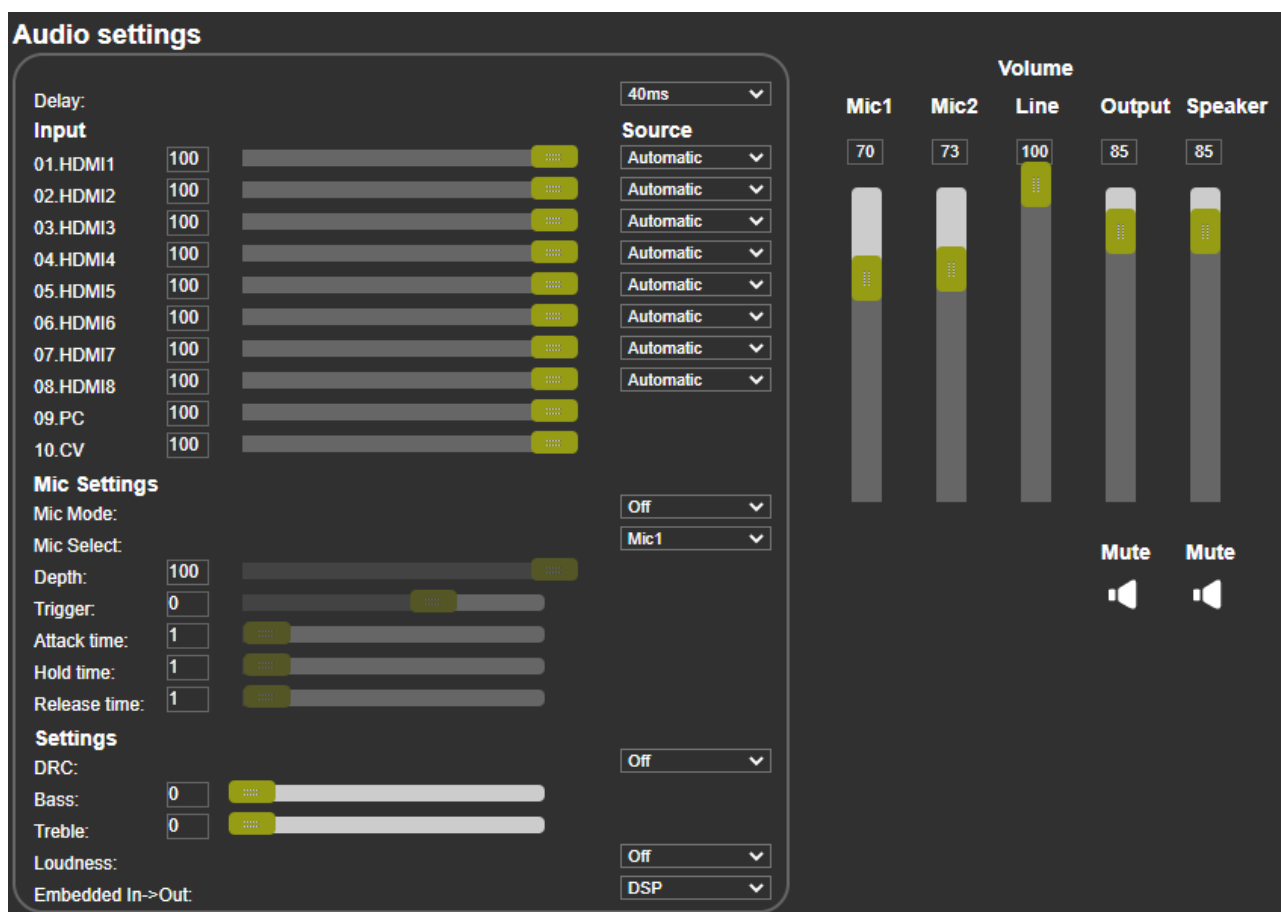

Figure 27: Audio Settings Page
1. In the Navigation pane, click **Audio Settings**. The Audio Settings page appears (see Figure 27).